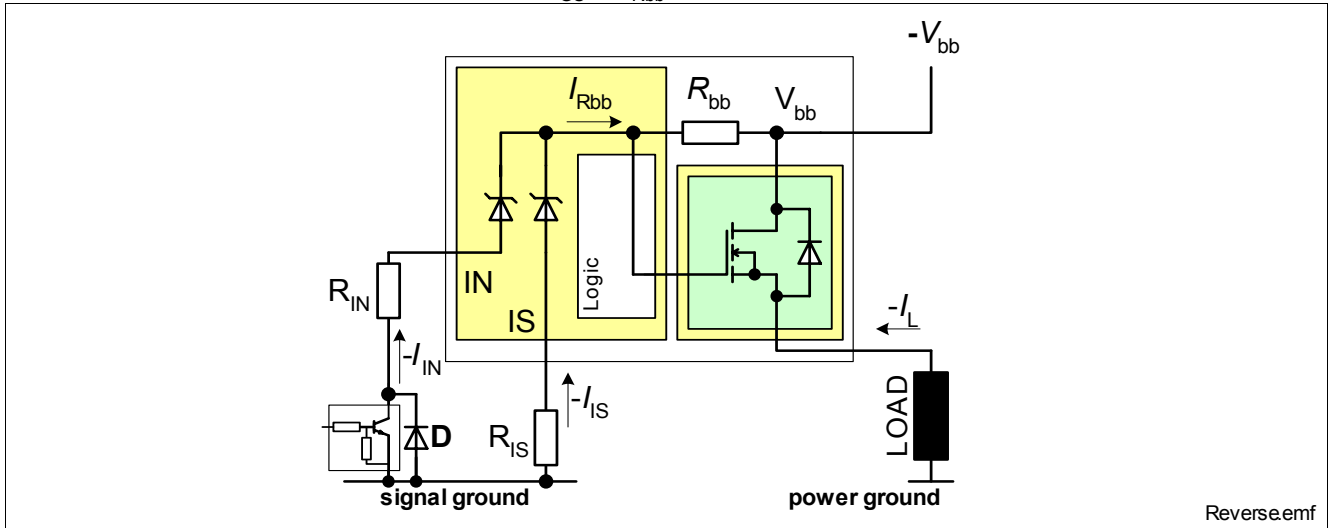

Figure 14 Reverse battery protection
- 4) Slew rate limitation can be achieved by means of using a series resistor for the small signal driver or in series in the input path. A series resistor R_{IN} in the input path is also required for reverse operation at $V_{bb} \leq -16\text{V}$. See also Figure 14.
The device can not block a current flow in reverse polarity condition. In order to minimize power dissipation, the device offers Reversafe® functionality. In reverse polarity condition the channel will be switched on provided a sufficient gate to source voltage is generated $V_{GS} \approx V_{Rbb}$. Please refer to **Figure 14** for details.